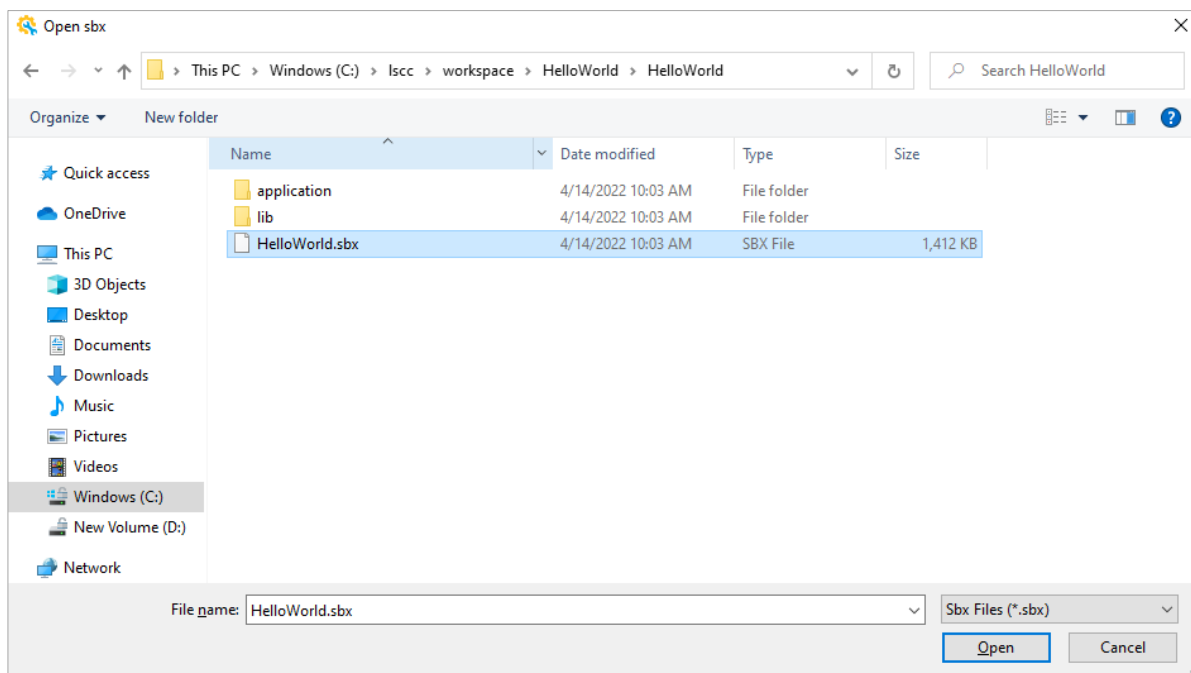

Figure 2.37. Open Existing Project
1. Browse to find the default project workspace folder or your own project workspace folder. Choose the sbx file, such as HelloWorld.sbx (Figure 2.37).